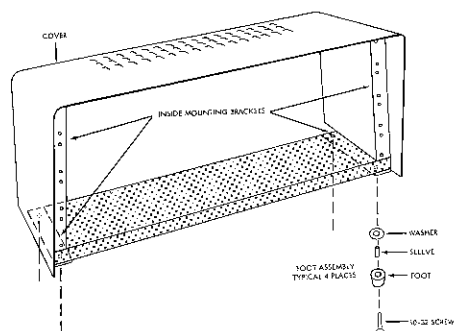

Figure 10. Installation of 42625 Cover Assembly
1. Attach four polyethylene feet with 8-32 screws supplied (see Figure 10).